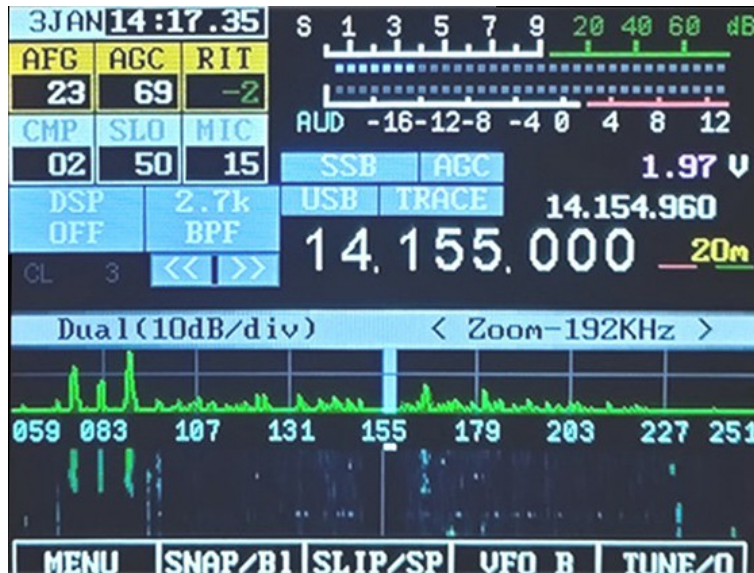
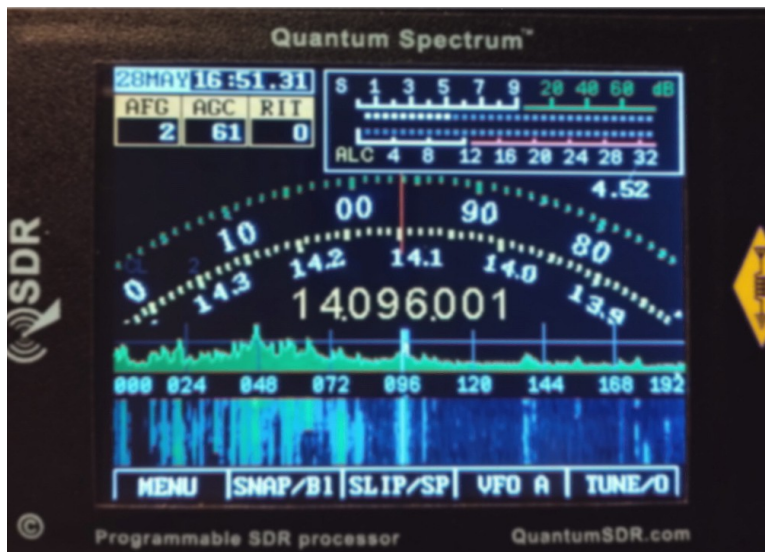

Figure 2: Main touch display of the Spectrum DSP
Figure 3: Virtual dial: The Spectrum after clicking the TUNE/O button.
- **S-Meter:** This S-meter is nominally calibrated so that S-9 equals 50 microvolts into a 50 ohm load with each S-unit representing 6 dB. Practically speaking, the usable range of the S-meter ranges from about S-3 to something a bit higher than “40 over” which, if you were “run the numbers” about matches the dynamic range of the receiver! The bottom half of the S-Meter's graticule (“S0-S9”) is normally white in color, but if the receiver's A/D converter experiences an overload condition, it will turn red. On bands with strong signals it is normal for this to momentarily flash red as the internal gain control adjusts itself. In **Figures 2 and 3** the S-meter is displaying a signal level of S-9.
Below the frequency readout, shown in **Figure 2** and **Figure 3** is a spectrum display that shows signals that are on either side of the current tuned frequency. Along the bottom of the spectrum display is a frequency scale that shows the frequency scaling of the graticules rounded to the nearest kHz.